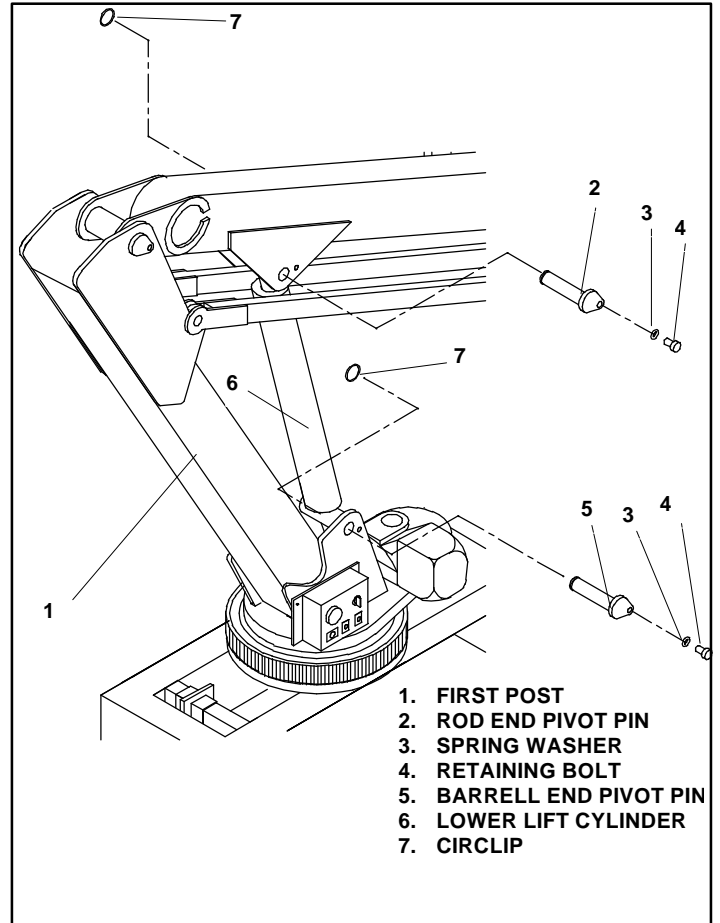

Figure 4-14: Lower Lift Cylinder
4.12 Lower Lift Cylinder (Figure 4-14)